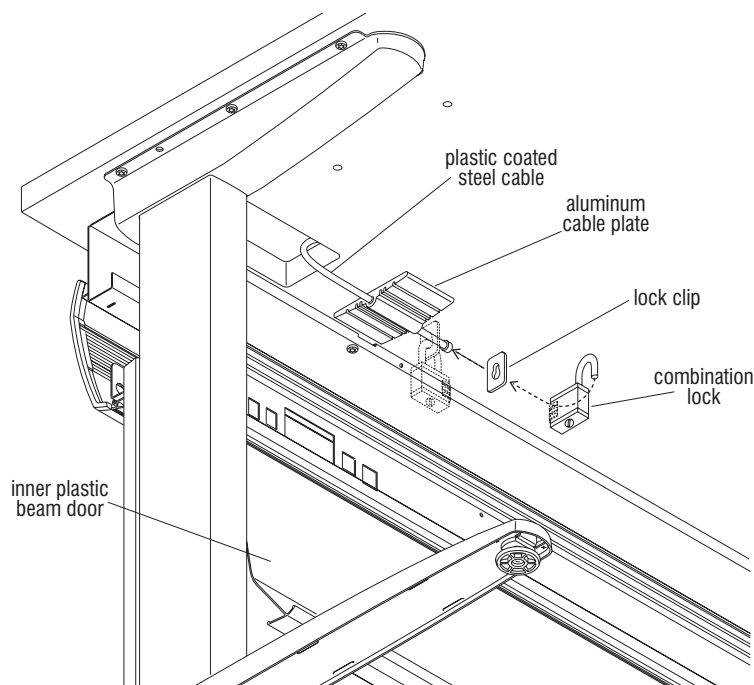

Figure 2
5. Route the cable down through the worksurface wire management grommet and into the beam channel area. Push the small cable end through the lower cable plate (Figure 2).
6. Slide the lock clip onto the end of the steel cable under the worksurface. Pull lock clip down to secure small notch of clip onto end of cable. Route padlock through opening in lock clip and close padlock (Figure 2).